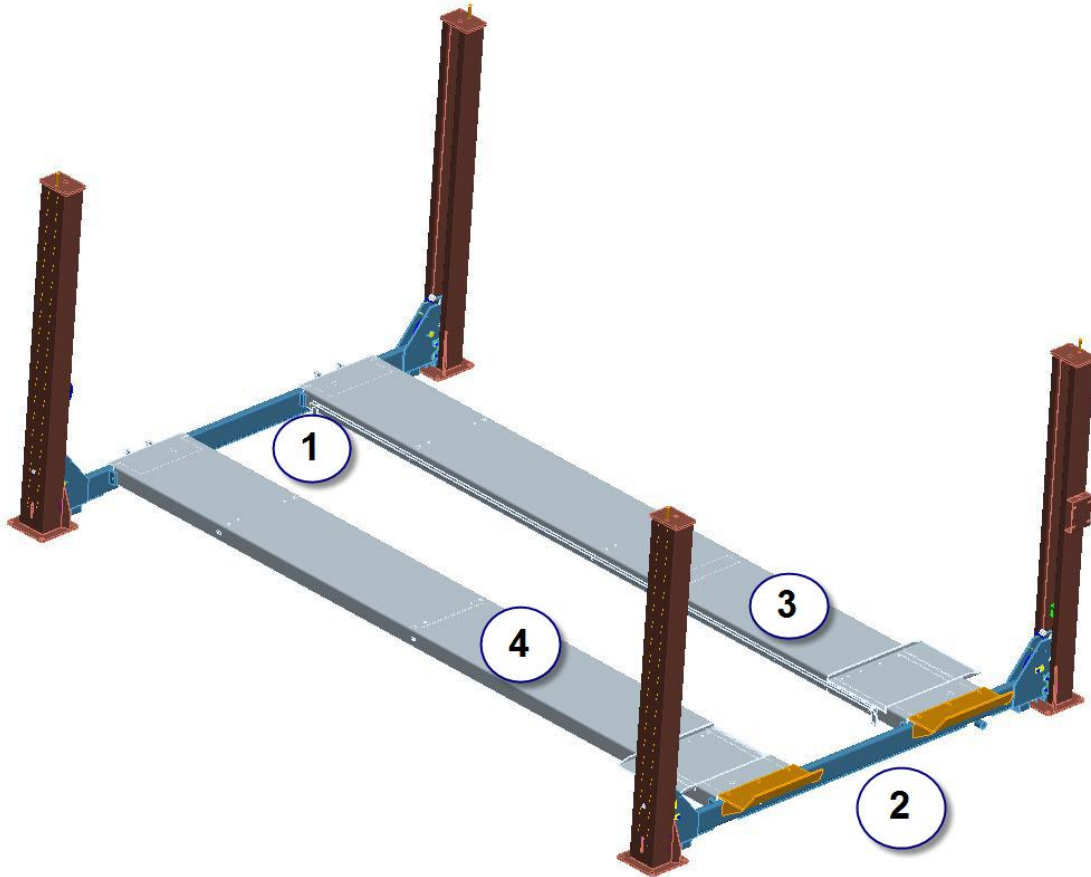

Figure 11
- Determine the highest corner of the lift and adjust remaining towers to level the lift, front-to-back and side-to-side (See positions 1, 2, 3 and 4 in **Fig. 11**). Use shims under tower base plate, as needed.